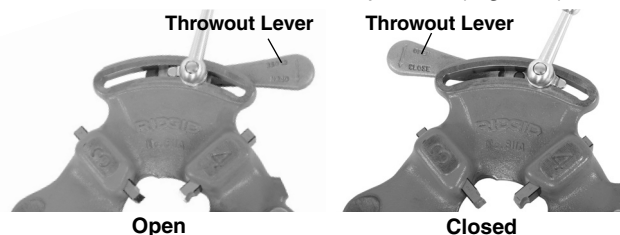

Figure 2 – Open/Closed Lever Position
2. Move throwout lever to OPEN position (*Figure 2*).